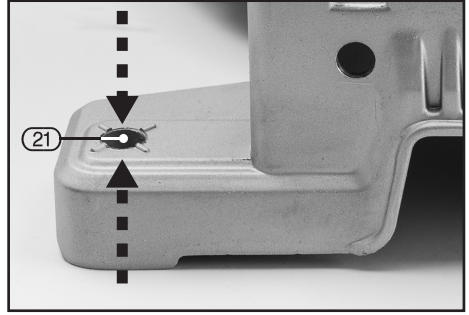

FIG.4
- Section 6.1 Identification, on page 13 indicates the two handling points, marked (A).
8.6 BENCH MOUNTING – FIG.4